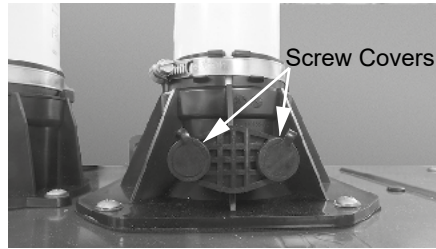

Figure 1 - Emission port location
- 3 Locate the emission port cap at the outlet exhaust port on the water heater as shown in Figure 1.